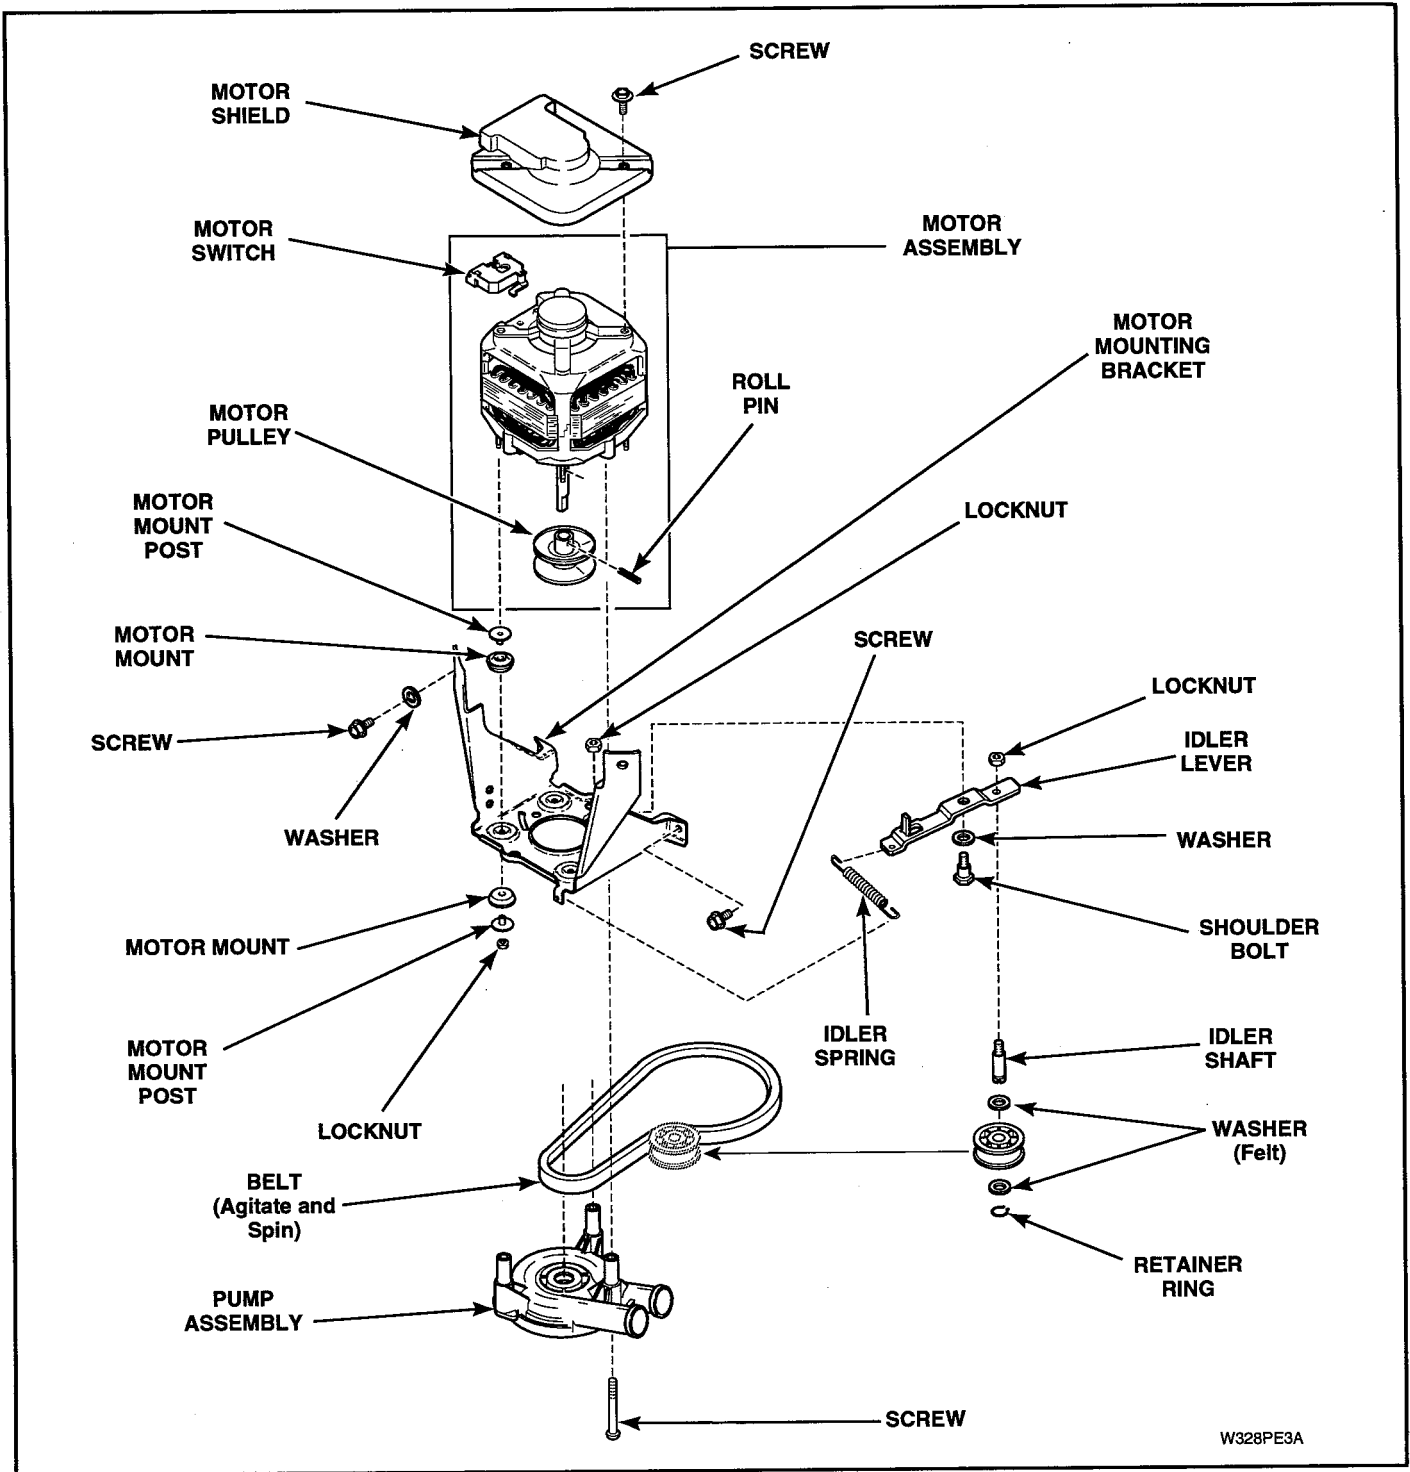

Figure 5-20
Remove nuts, steel washers, spacers and rubber mounts holding motor to mounting bracket. See Figure 5-20. Lift motor off mounting bracket and remove balance of rubber mounts and steel washers from motor mounting studs.
**NOTE:** Refer to Figure 5-20 for motor and mounting bracket assembly sequence.
- i. Remove nut, washer and bolt holding idler lever and pulley to motor mounting bracket. See Figure 5-20.
**NOTE:** Refer to Figure 5-20 for idler lever and pulley assembly sequence.
**NOTE:** To remove pulley, support motor shaft (to prevent bending shaft) and drive out pulley roll pin. See Figure 5-20.